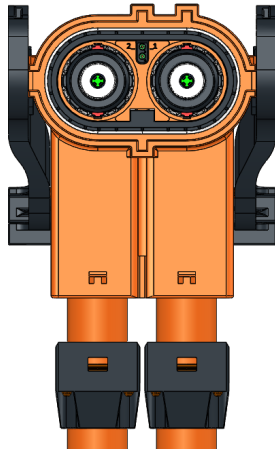

Figure 12.1.1
**Step 12:** Assemble the cable gland (Figure 12.1.1 & 12.1.2)